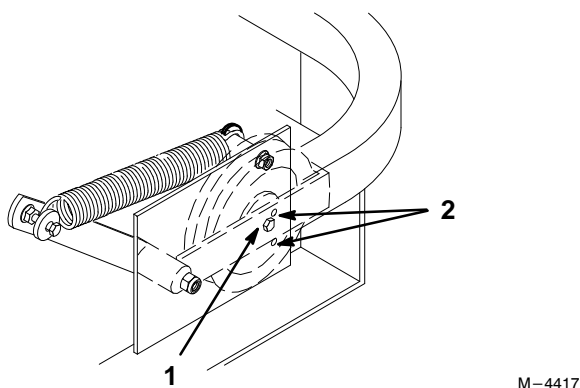

**Figure 46**
2. Remove the clutch retaining strap from machine frame and unplug clutch terminal from wire harness (Fig. 46).
3. Remove PTO drive belt from rear idler arm and front idler pulley assembly. Remove the PTO drive belt (Fig. 46).
4. Place new drive belt over clutch, around rear idler pulley, installed into rear idler arm assembly, installed into front idler pulley assembly and onto top center pulley (Fig. 46).
- IMPORTANT: Check the amount of twist in belt between pulleys. Make sure it is only what is specified in figure 46.**
5. Install clutch retaining strap and plug clutch terminal into main wire harness (Fig. 46).